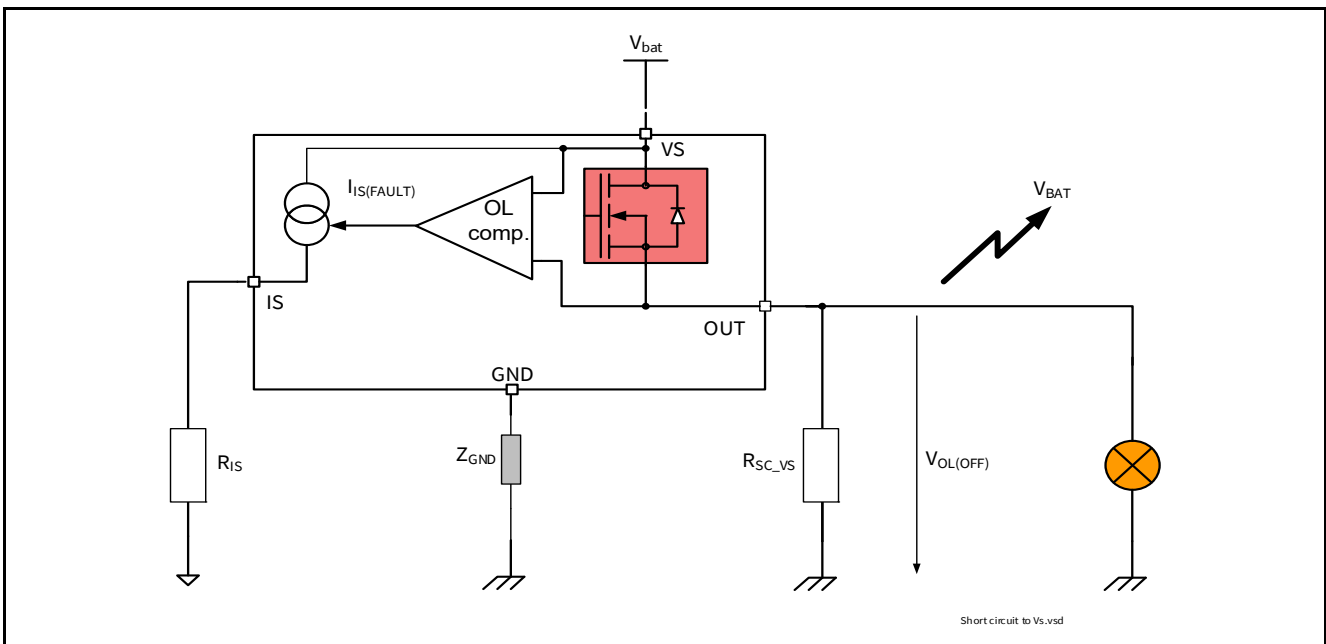

**Figure 26 SENSE Signal in Open Load Timing**
**Figure 26** shows the timing during either Open Load in ON or OFF condition when the DEN pin is HIGH. Please note that a delay  $t_{sIS(FAULT\_OL\_OFF)}$  has to be respected after the falling edge of the input, when applying an open load in OFF diagnosis request, otherwise the diagnosis can be wrong.